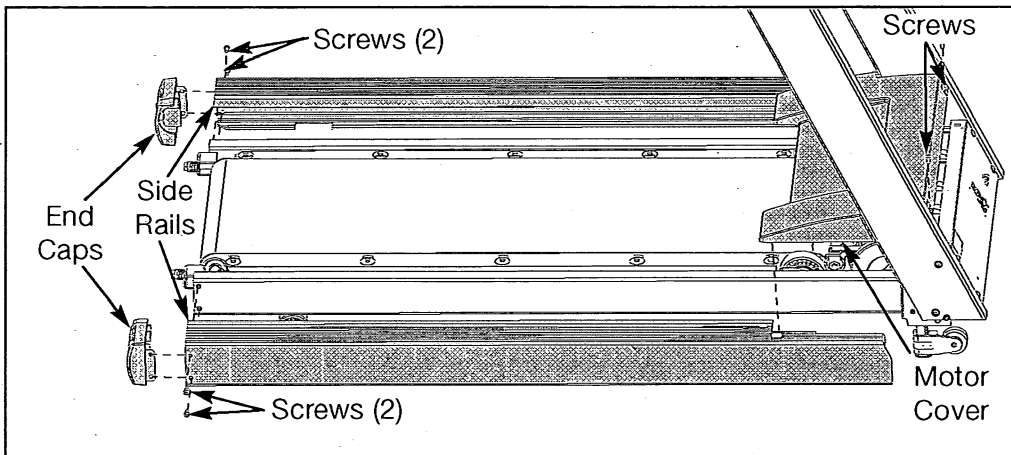

Figure 2
- A. Turn the main power switch on the front panel to the off (O) position.
- A. Remove the two Phillips head screws that fasten the motor cover to the frame. Lift the cover and set it aside. This will allow you to remove the side rails. See Figure 2.
- B. Using a 3/16" Allen wrench, remove the two button head screws on the sides of each side rail. See Figure 2.
- B. Using a 3/16" Allen wrench, attach the two button head screws on the sides of each side rail. See Figure 2.
- C. Lower the motor cover in place and tighten the two Phillips screws. See Figure 2.